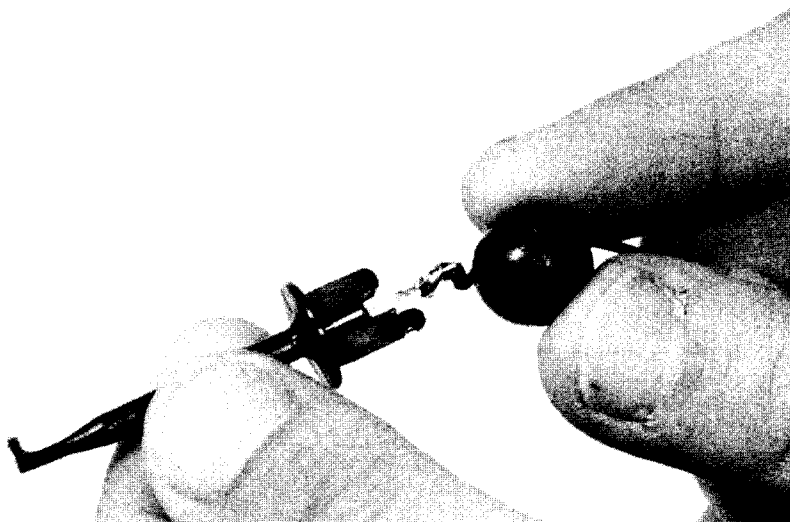

Fig. 26: Disassembly of E-Z Hook® for service.
3. Open the E-Z Hook® by pulling the ball straight off the back of the connector. (See Fig. 26.)